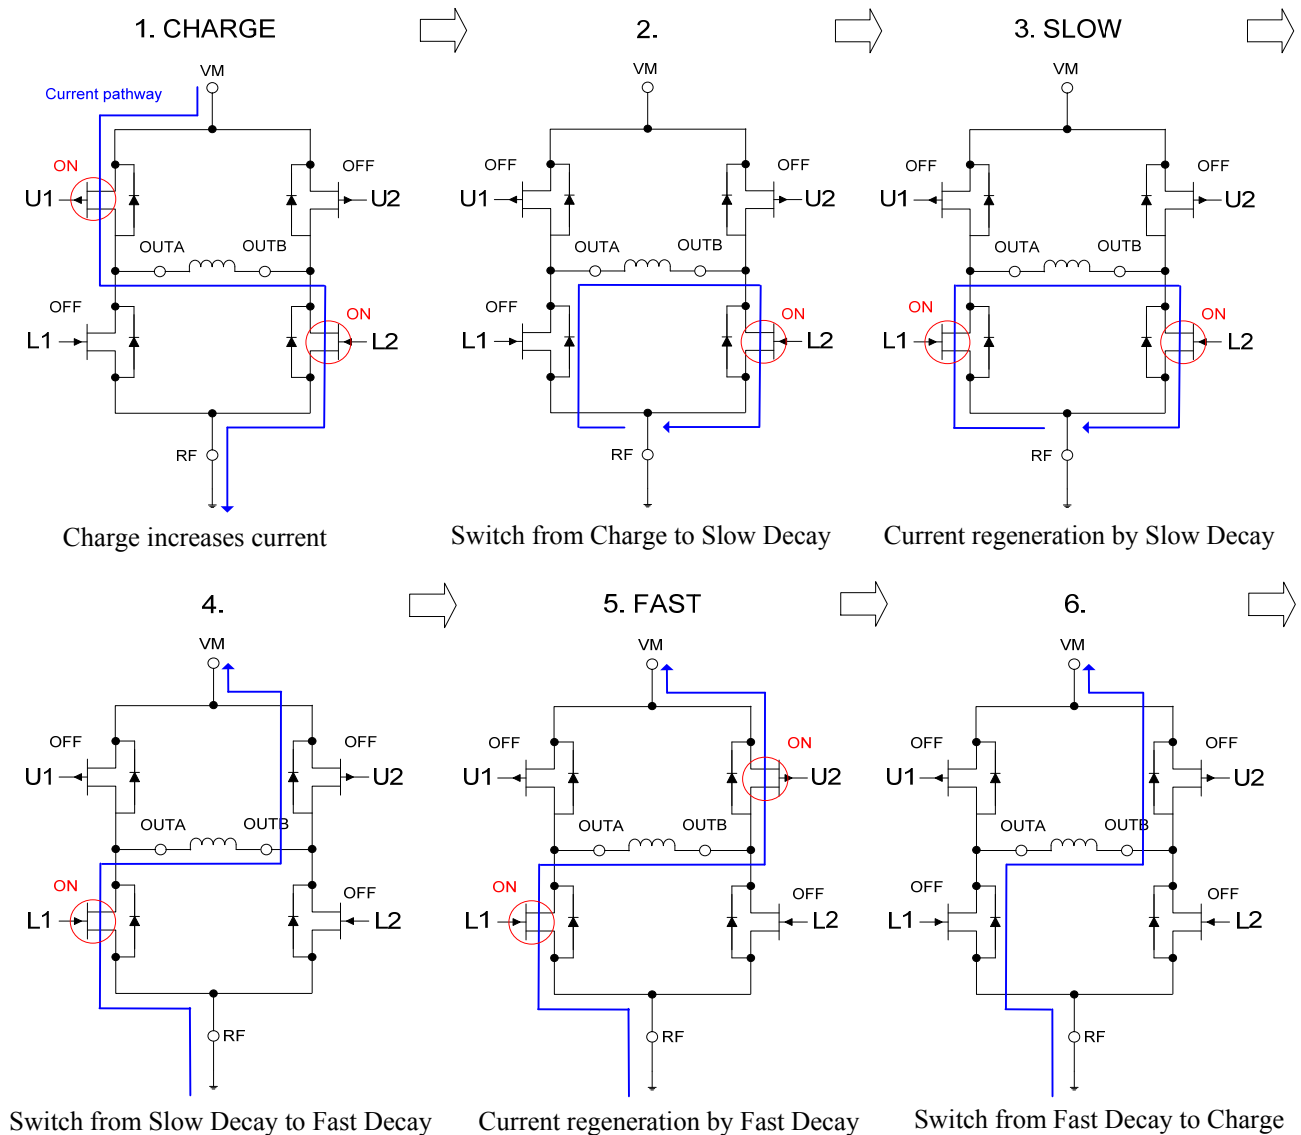

Figure 30. MOSFET switching sequence for constant-current control
These intervals (Charge, Slow Decay and Fast Decay) are results of MOSFET switching as shown in Figure 30.
Whenever, there is a switch from the upper MOSFET to the lower MOSFET of the same leg, the fixed dead time of  $0.375\mu\text{s}$  is provided to avoid turning on both MOSFETs on at the same time. During this time, the coil current flows through the body diode of the MOSFET as seen in (2), (4) and (6) events in figure 30.